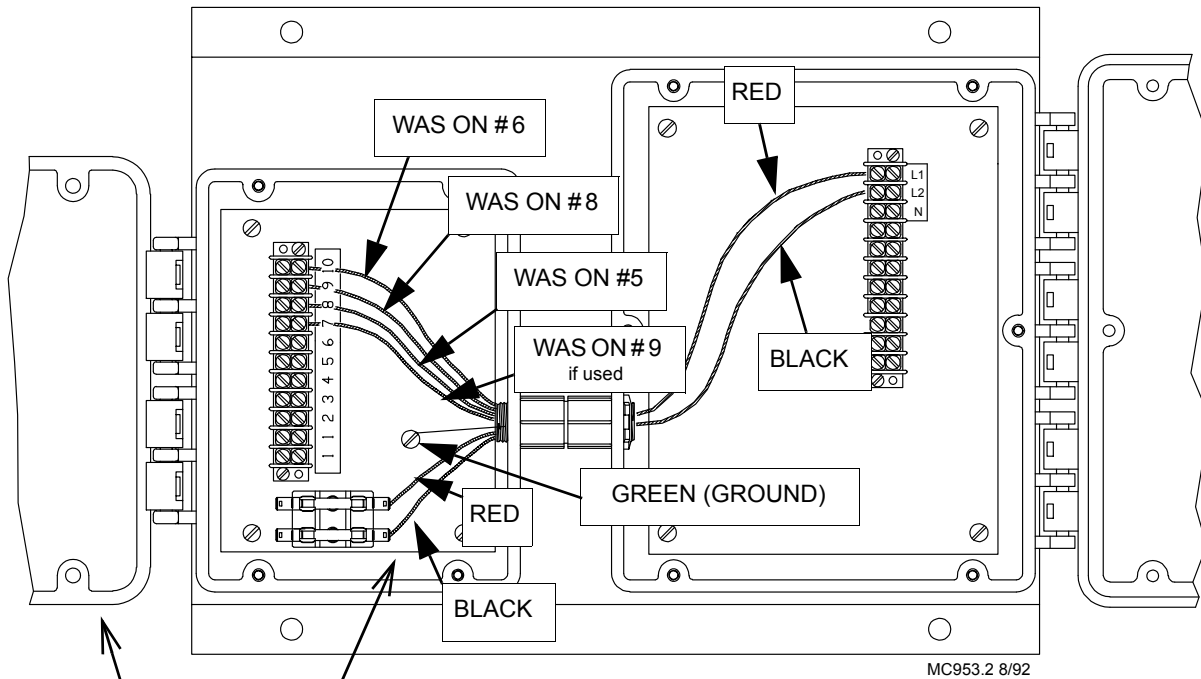

Figure 2. New Base Plate and Lid.
6. Connect the wires, as shown in Figure 2. Don't forget to connect the green (ground) wire to the Base Plate. Close the lid and turn power on at the circuit breaker.